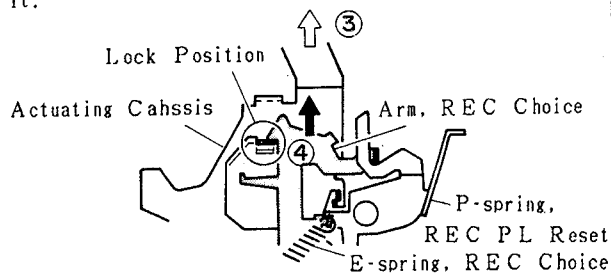

Fig. 24-3
- 2) The PLAY mode operation moves the Actuating Chassis in the direction of arrow ③, catching the Arm, REC Choice at the point shown in Fig. 24-3 to pull up in the direction of arrow ④. Even if the REC-PL is turned off, the Arm REC Choice is never released since the E-spring, REC Choice keeps pulling it.